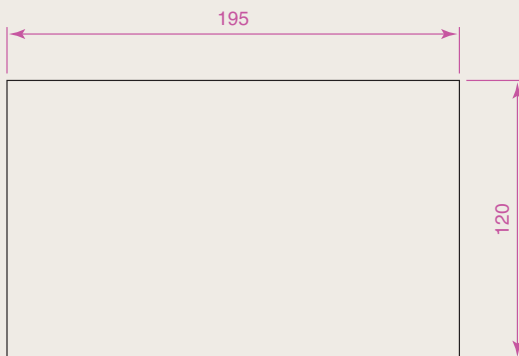

Fig. 2.29 Exercise 2
- Construct the outline Fig. 2.29 using the **Line** tool. The coordinate points of each corner of the rectangle will need to be calculated from the lengths of the lines between the corners.